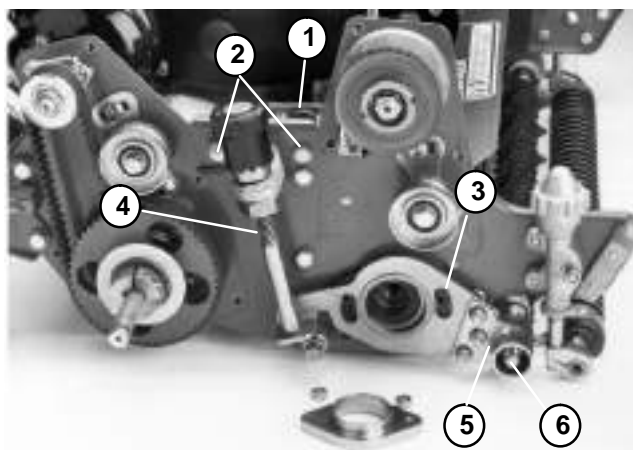

Figure 28
A. Slide bearing housing of frame assembly (RH) over the end of the grooming reel shaft (Fig. 28)
C. Insert both flat head screws through the groomer arm cover and adapter. Put a spacer over each screw before placing the adapter into the reel bearing housing (Fig. 28 and 29).
D. Slide adapter through the bearing and into the reel bearing housing. Install lock nuts on flat head screws and torque from 23 to 27 ft-lb (3.2 to 3.7 kg-m) (Fig. 28 and 29).
**Note:** The lock nut (1) has **left handed** threads.
9. Reinstall bedbar adjuster frame to the mower frame with cap screws and washers previously removed (Fig. 28).